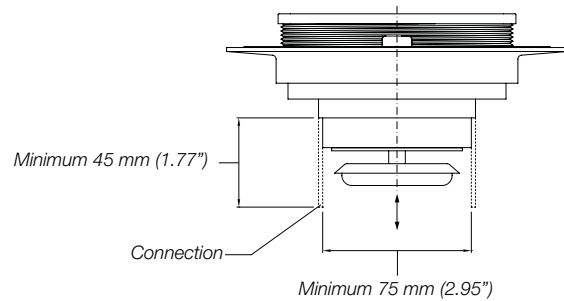

Fig.1.1
- When making the connection to the pipe, please take care that there is enough space to the valve could freely opens and closes (See Fig.1.1).